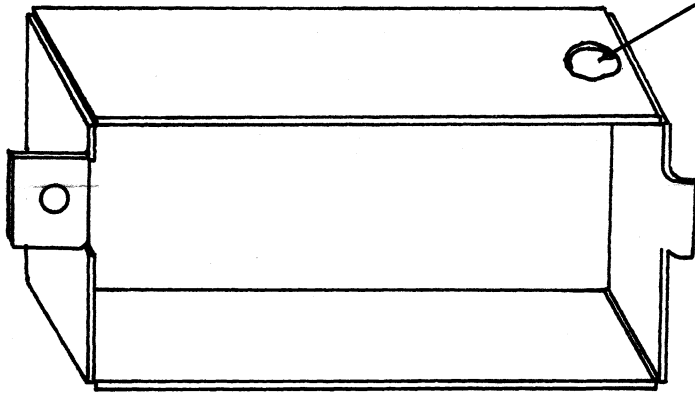

FIG 2A
5. Remove the battery cover from the rear of the set, and drill a  $\frac{1}{4}$  inch hole in the top right hand side of the cover, as close as possible to the edge. See fig 2A.